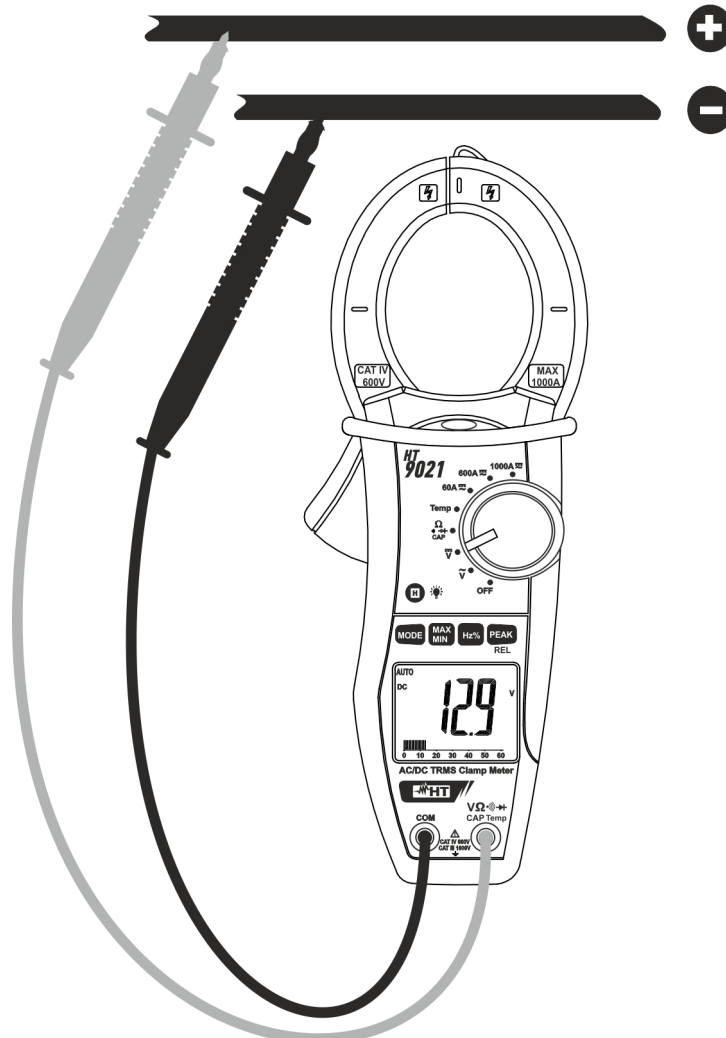

Fig. 4: Taking DC voltage measurements
2. Insert the red test lead plug into  $V\Omega\overline{CAP}$  Temp jack and the black test lead plug into **COM** jack (Fig. 4)